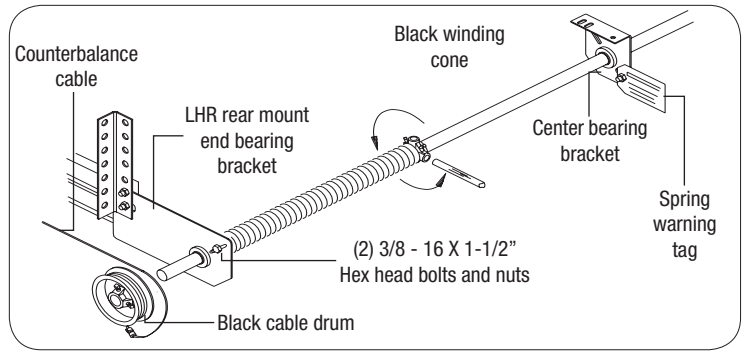
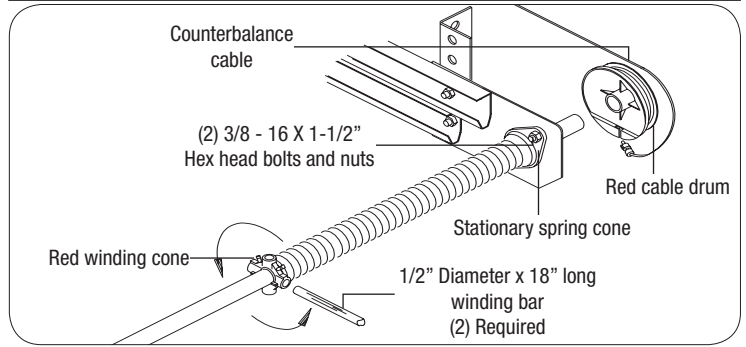

FIG. 14.1
FIG. 14.2
Lift the torsion shaft off the floor. Slide one end of the shaft through the end bearing bracket. Extend the shaft through the bearing until the opposite end of the shaft can be inserted into the other bracket. Equalize the amount that the shaft protrudes on each side. Slide the center bearing bracket to the center of the torsion shaft. Secure the bracket to the ceiling using perforated angle or wood blocking. Place the stationary cone(s) of the torsion springs in line with the slots in the end bearing brackets and secure using (2) 3/8-16 x 1-1/2" hex head bolts and nuts (each) as shown. Place the black drum over the left end of the torsion shaft (inside looking out) and the red drum over the right end. Apply locking pliers to the track above a roller before winding springs. Ensure that counterbalance cables are over the steel sheaves and wrap the counterbalance cables over the tops of the drums. Hook the cable stops behind the notches in the drums. Rotate the drums to add tension to the cables. Tighten the set screws for each drum. Clamp locking pliers onto the torsion shaft so that cables maintain tension. Cables should terminate at 6 O'clock position minimum (as shown), and cable tension should be equal for both sides. Check the spring warning tag for number of turns required. Using approved winding bars, wind the springs upward to the required number of turns, as shown in FIG. 14.1 and FIG. 14.2.